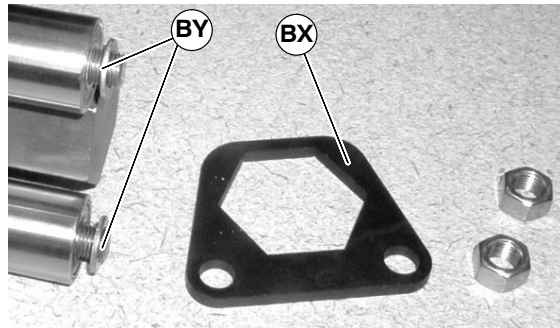

Figure 59
6. Remove support plates (BX of Figure 59) and washers (BY).